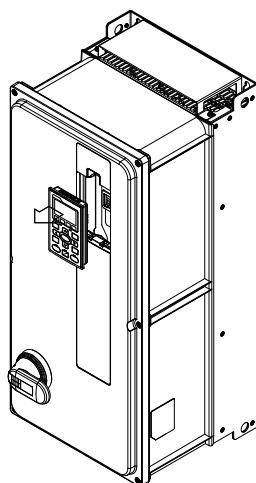

Figure 6-10
- 1) Remove the keypad. (As shown in Figure 6-10)